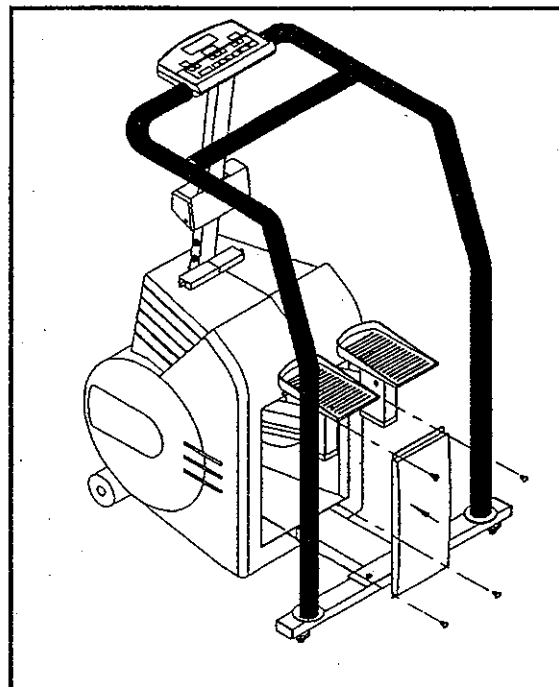

Fig. 21
8. Secure the front cover with four screws (see Fig. 21).